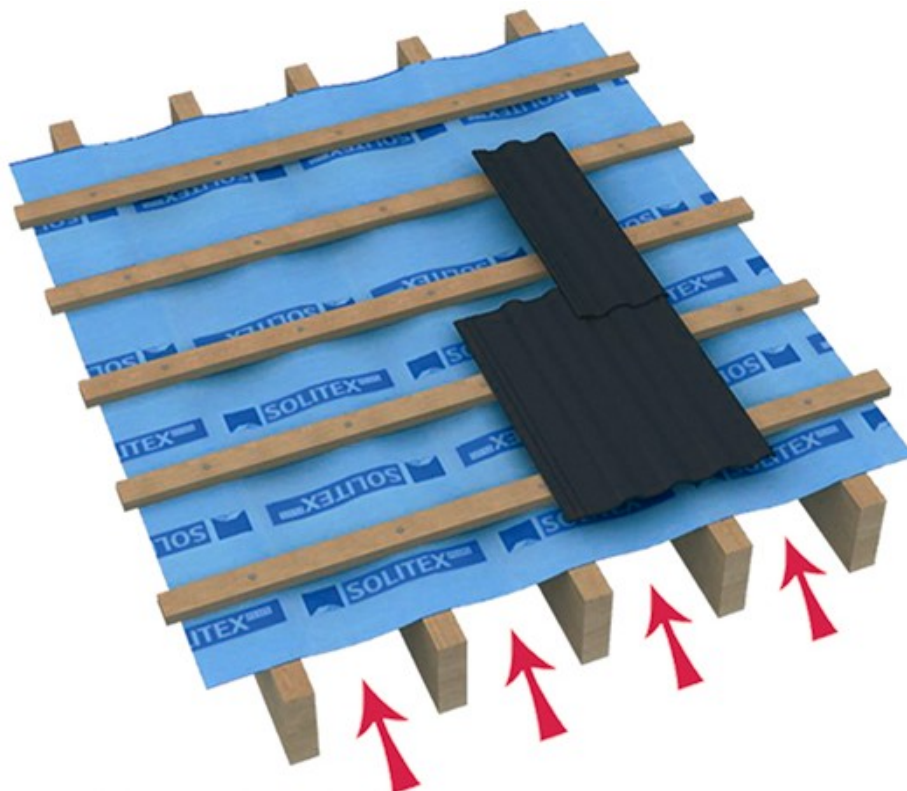

Figure 3: Ventilated cold roof detail
- To assist in the ventilation of the eaves in a cold roof, the use of proprietary eaves ventilators is strongly recommended as they ensure that quilt or loose fill insulation will not obstruct the flow of air where the insulation and roof meet (ref. Fig 3).